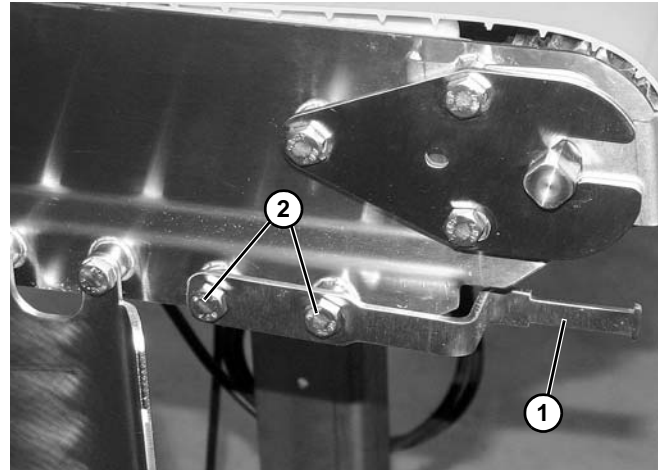

Figure 12
1. Attach one bracket (**Figure 12, item 1**) to each side of the conveyor loosely with two screws (**Figure 12, item 2**).